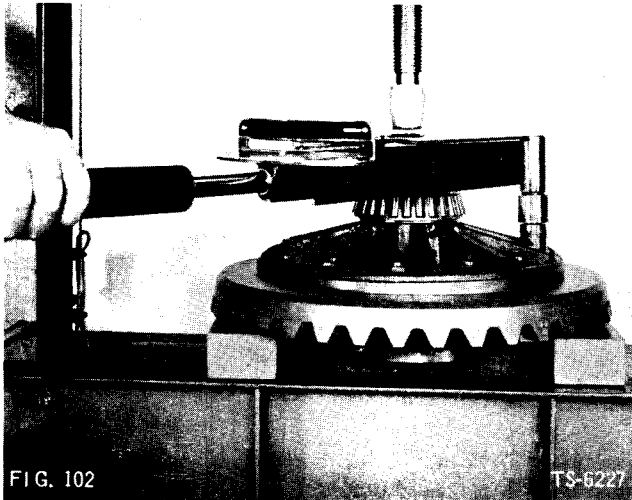

FIG. 102
3. Install ring gear. Install bolts so internal diameter of ring gear prevents turning of hex head. Install ring gear bolt nuts and torque to 120 to 135 ft. lbs. Position ring gear and flanged hub in press and apply light press pressure to facilitate torquing nuts (Fig. 102).